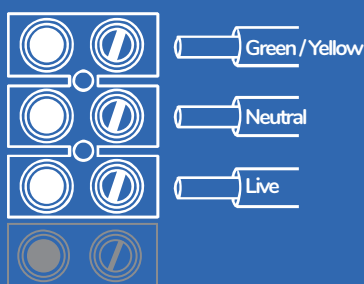

FIG 3. TERMINATE
4. Run the cables through the cable hole into the bracket. Strip, connect and terminate the cables as in (fig 3). Ensure the insulation of the cables passes completely into the mounting bracket so that no single insulation is exposed. Be careful with multi-strand conductors.